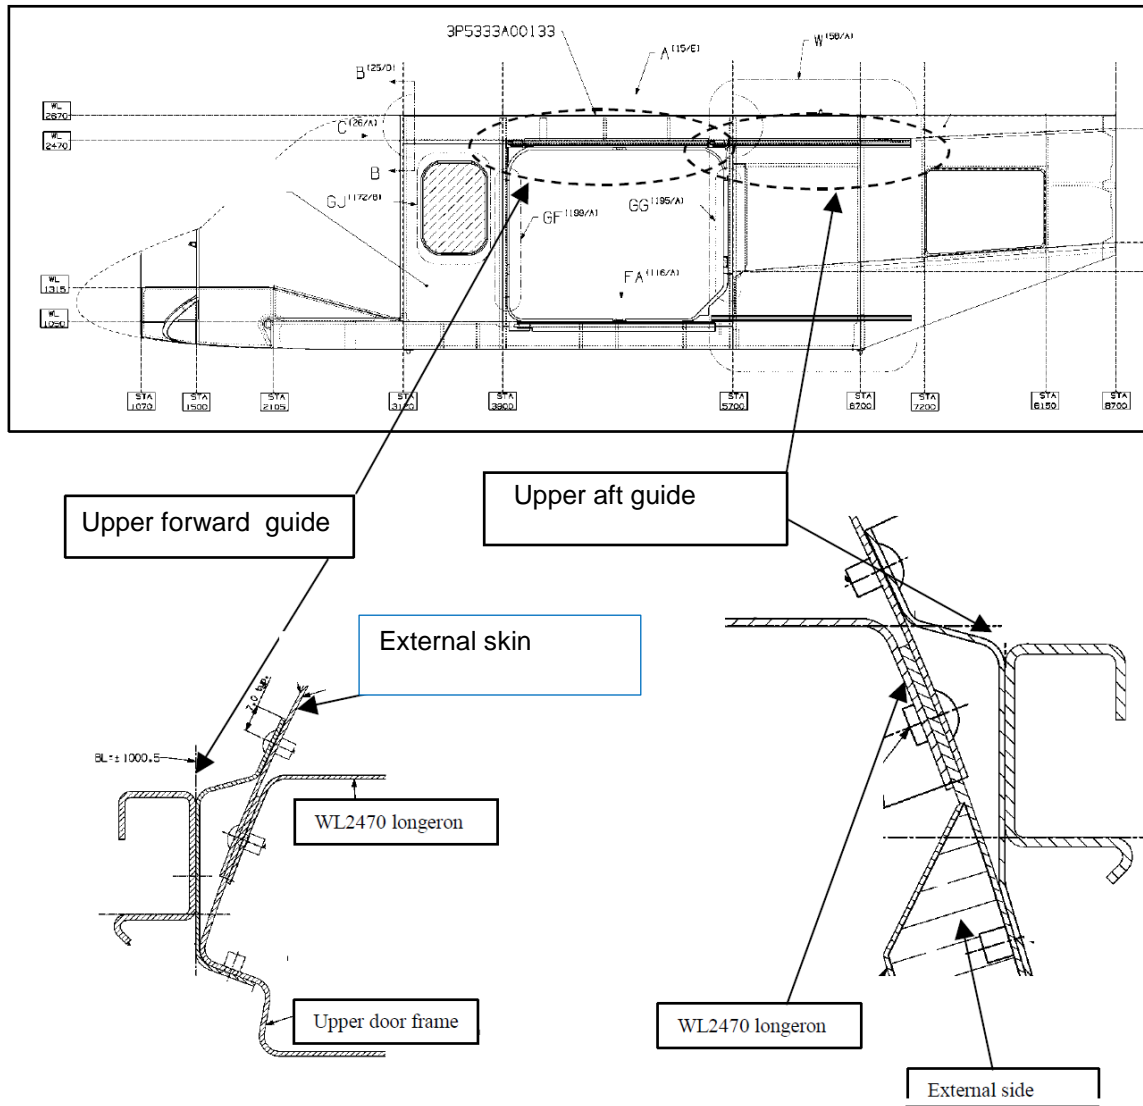

Figure A-6
- 1.2 joints related to pax door upper forward and aft guide assy. Finish the sealing of the joint with upper skin with method III and same sealant - see Figure A-6.